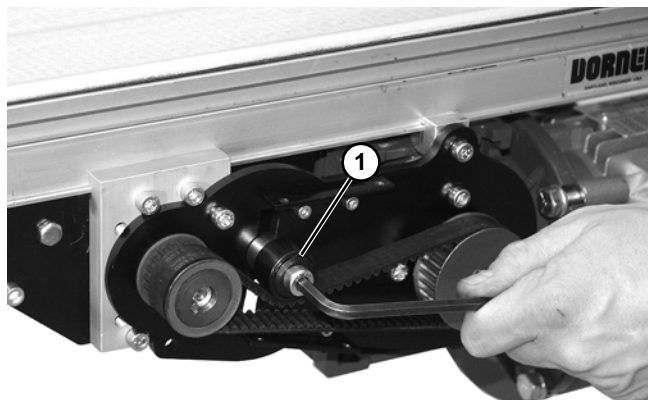

Figure 15
2. Loosen tensioner (Figure 15, item 1).
- Loosen tensioner (Figure 15, item 1).